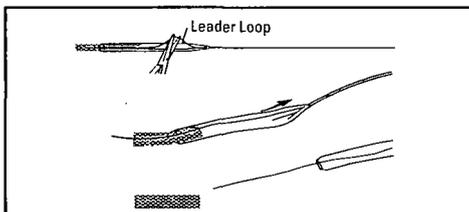

Figure 4: Tension Mesh/Sleeve Removal
- 3. Once proper tension is achieved, cut the leader loop that is on the outside of the sleeve that is connecting the dilator leg and sleeve to the mesh. Pull outward on the dilator to remove the sleeve leaving the mesh in place. Repeat on the other side. (See Figure 4).